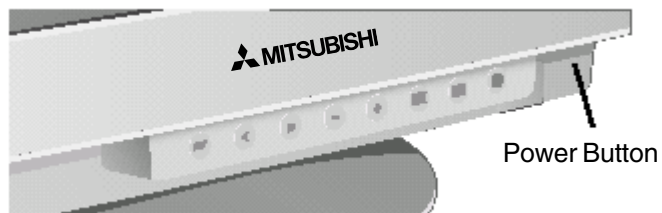

Figure D.1
5. Turn on the monitor (**Figure D.1**) and the computer.